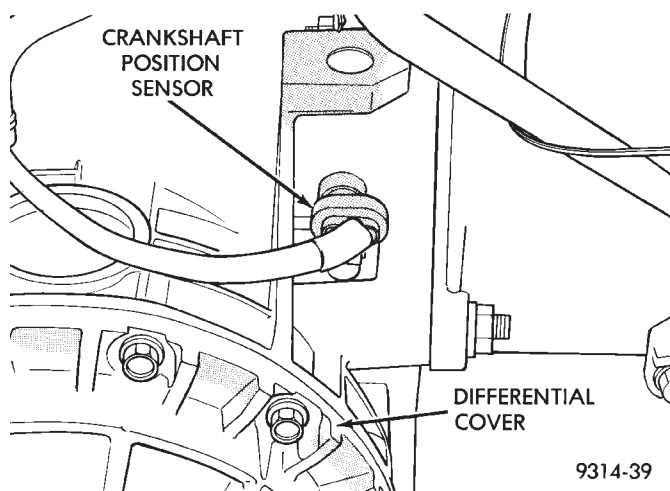

Fig. 17 Crankshaft Position Sensor
(18) Check fuel supply and return tube connections for leaks.
(19) Verify electrical connector is attached to the crankshaft position sensor (Fig. 17).